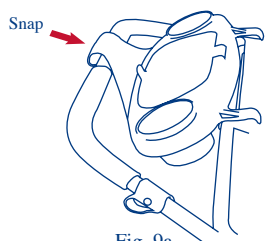

Fig. 9a
- Snap the upper portion of the tray over the handle as shown in figure 9a.